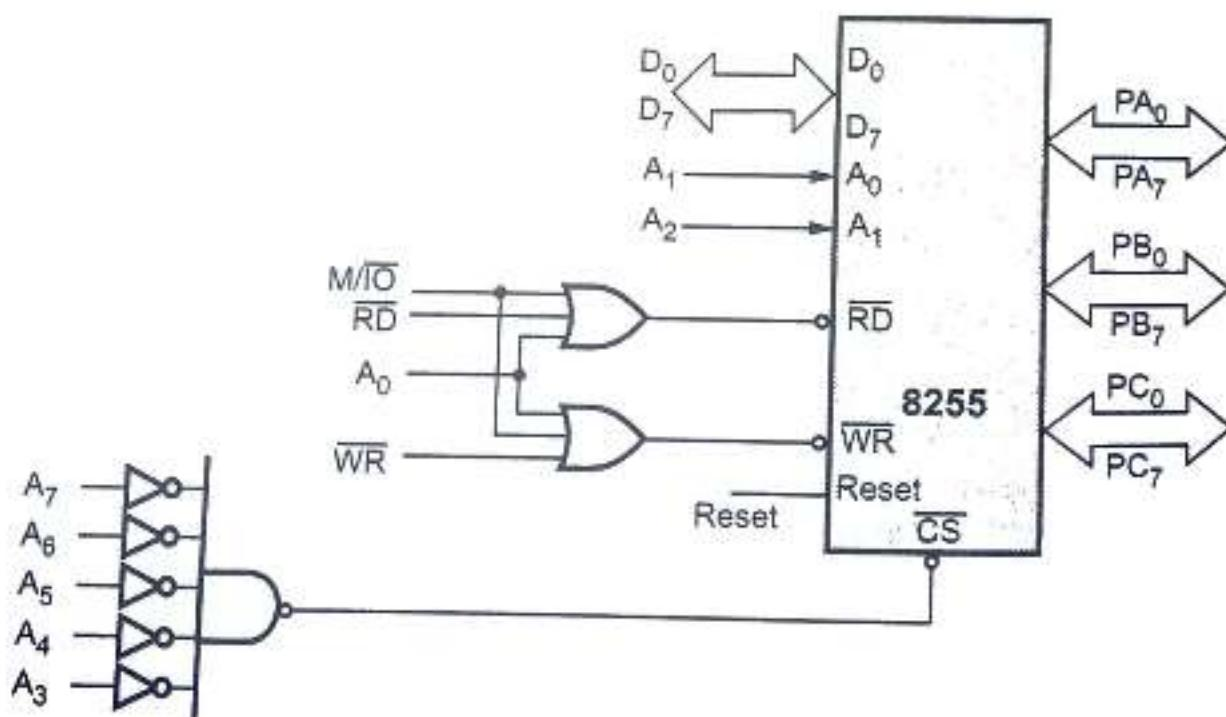

Fig. 3.4.18 I/O mapped I/O (Direct address method)
- Fig. 3.4.18 shows the interfacing of 8255 with 8086 in I/O mapped I/O technique. Here, RD and WR signals are activated when M/ \overline{IO} signal is low, indicating I/O bus cycle.